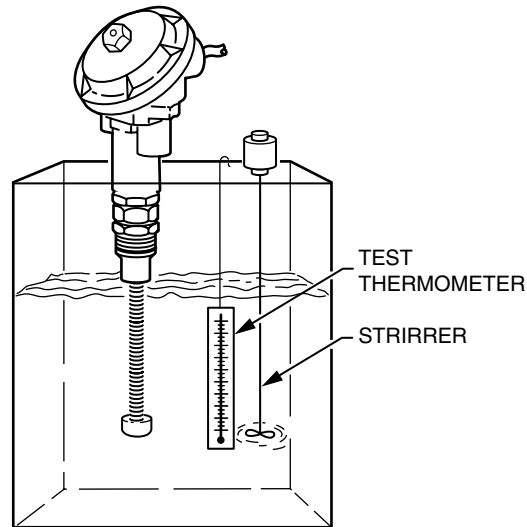

Figure 14. Calibration Setup
3. Immerse element (see Figure 14) up to top of windings in a well-stirred water bath at approximate operating temperature. Measure bath temperature with a test thermometer.